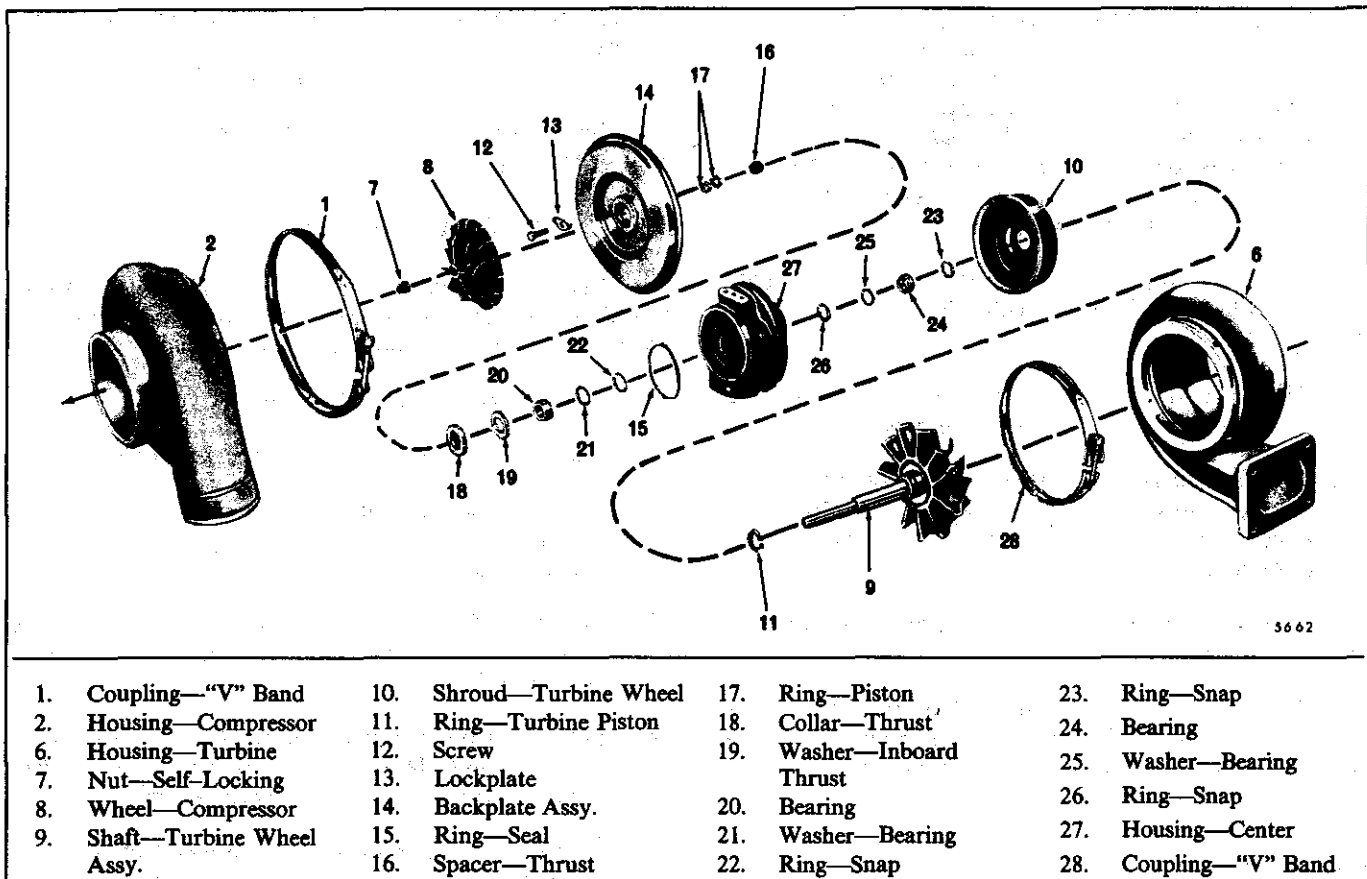

Fig. 16 – TV61 Turbocharger Details and Relative Location of Parts.
TV61 Turbocharger - Fig. 16.
**TV61 Turbocharger – Fig. 16.**